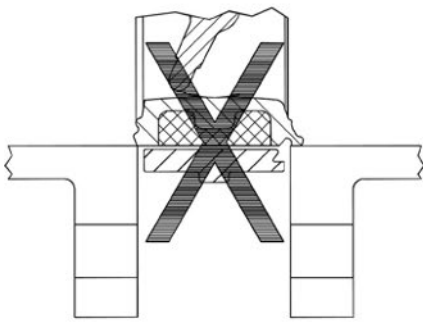

fig. 1
- Never attempt to force a valve through flanges that do not allow the valve to be inserted due to the risk of serious damage to the sealing area on the flanges (fig. 1).